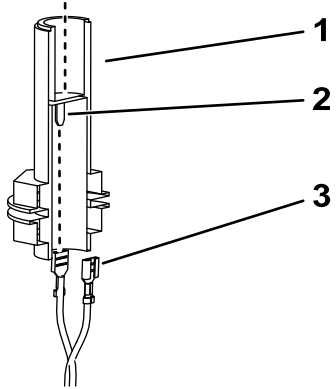

Figure 11
- Connect the loose work light harness connectors to the spades in the beacon socket (Figure 11).